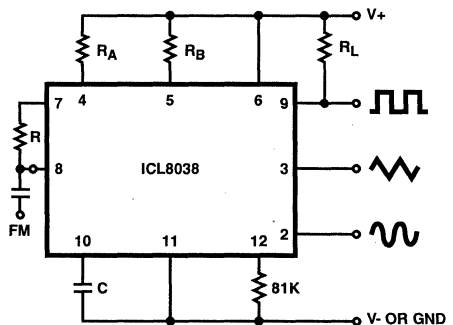

FIGURE 5A. CONNECTIONS FOR FREQUENCY MODULATION
- $V_{SUPPLY} = 20V$; R_A and $R_B = 10k\Omega$, $f \approx 10kHz$ nominal; can be extended 1000 to 1. See Figures 5A and 5B.
The frequency of the waveform generator is a direct function of the DC voltage at Terminal 8 (measured from V+). By altering this voltage, frequency modulation is performed. For small deviations (e.g. ±10%) the modulating signal can be applied directly to pin 8, merely providing DC decoupling with a capacitor as shown in Figure 5A. An external resistor between pins 7 and 8 is not necessary, but it can be used to increase input impedance from about 8kΩ (pins 7 and 8 connected together), to about (R + 8kΩ).